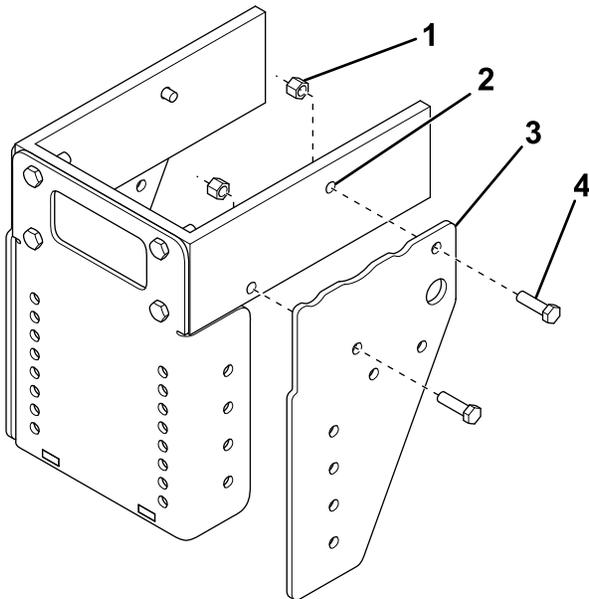

Figure 3
- Loosely secure the front of the left sideplate to the frame using a bolt (1/2 x 1-3/4 inches) and nut (Figure 3).
- Using the sideplate as a guide, mark the location of the rear sideplate hole on the frame (Figure 3).
- Secure the left sideplate using 2 bolts (1/2 x 1-3/4 inches) and nuts (Figure 3).